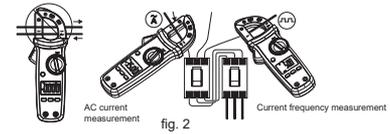

fig. 2
1. AC Current/Current Frequency Measurement (fig. 2)